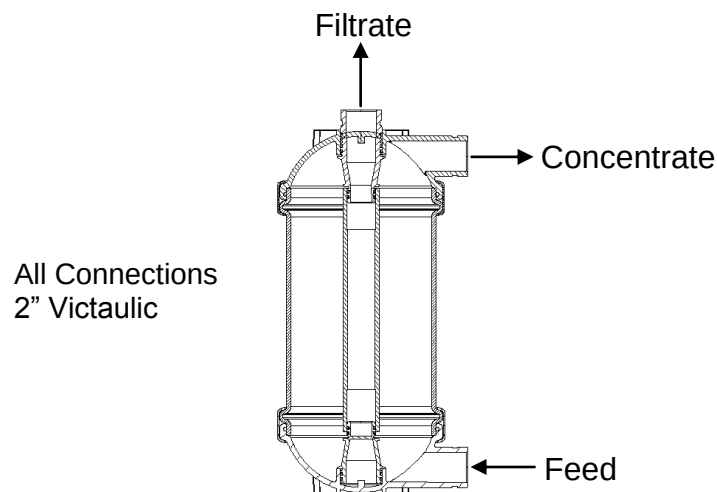

Figure 1: Flow Orientation
1. The modules should be installed vertically with the filtrate connection at the top (see figure 1). Vertical installation is highly recommended. If horizontal orientation is the only choice, the modules should be placed with the feed and concentrate ports facing upwards to avoid air entrapment.